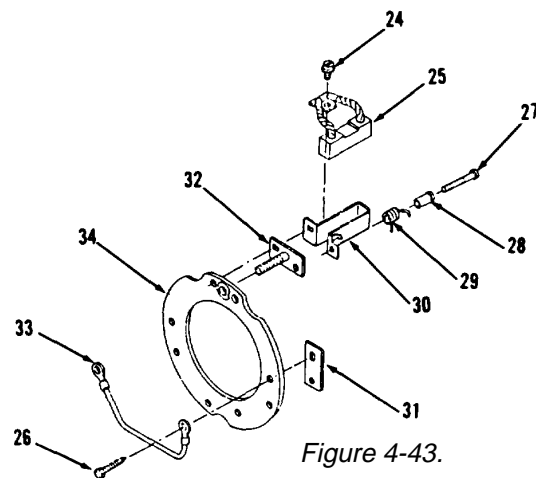

Figure 4-43.
15. Inspect bushing (21) and if necessary, using a suitable driver and press, remove bushing (21) from end frame (22).
16. Remove washer (23) from plate (34).
17. Remove two screws (24, Figure 4-43).